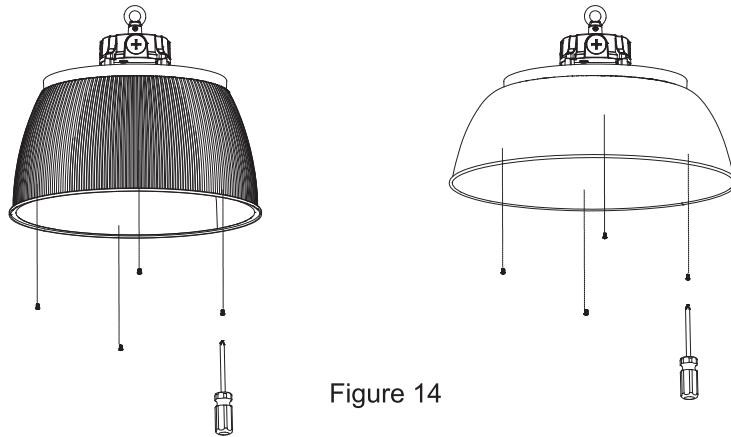

Figure 14
Step 1. Lock the PC reflector or Aluminum reflector to the lamp with screws. Step 2. Installation complete. (Figure 14)